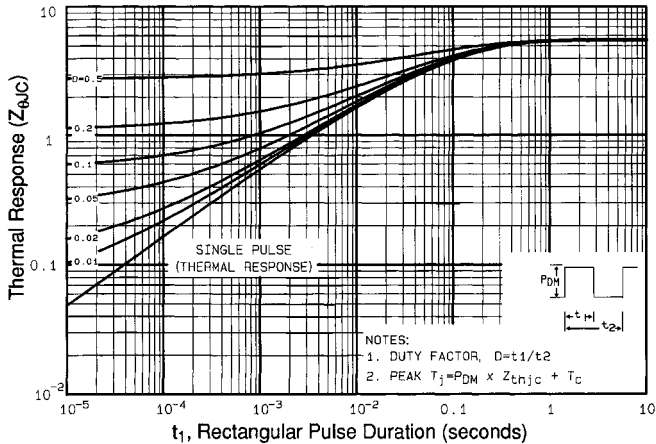

Fig 11. Maximum Effective Transient Thermal Impedance, Junction-to-Case
- ① Repetitive rating; pulse width limited by max. junction temperature (See Figure 11) ③ I_{SD}≤-6.7A, di/dt≤90A/μs, V_{DD}≤V_{(BR)DSS}, T_J≤175°C ⑤ t=60s, f=60Hz